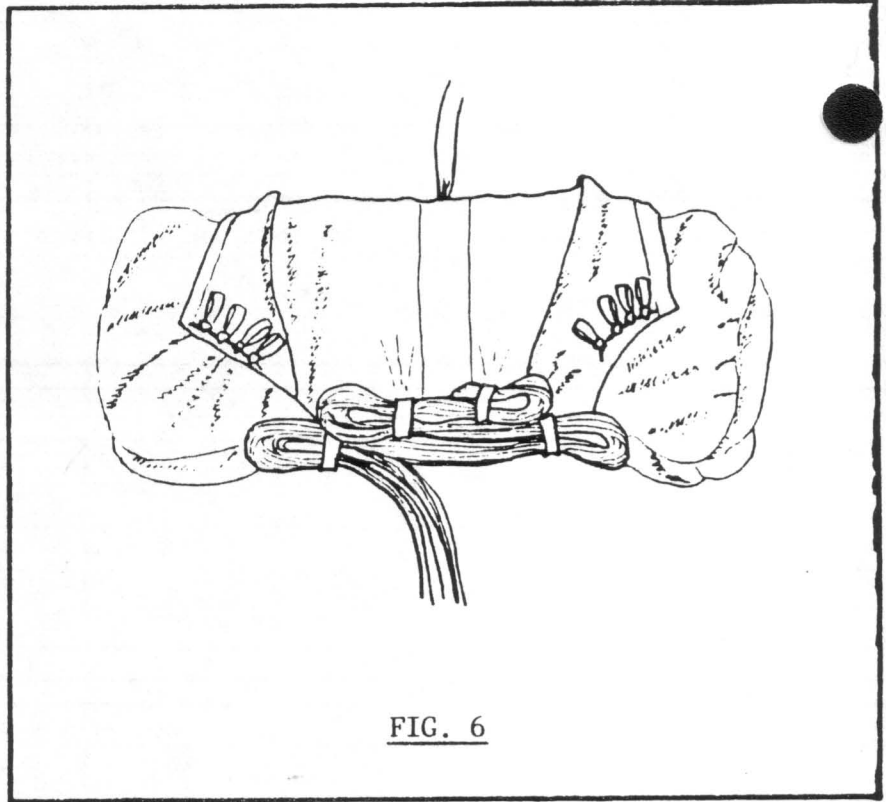
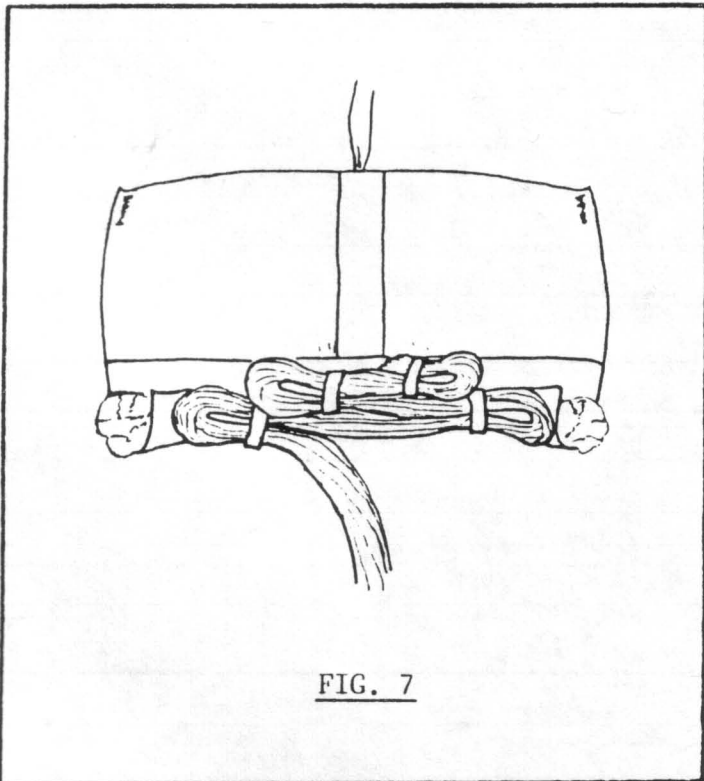

FIG. 6
FIG. 7
- 7) Make the locking stows with the suspension lines to close the mouth of the bag BEFORE closing the velcro split at each end. There are four locking stows; make the stows nearest the center first, then the stows nearer the corners (FIG. 6). After the locking stows have been made, stuff the canopy in at each end of the bag and mate the velcro to complete the closure of the bag. This technique fills the sides and corners of the bag and avoids the lump in the middle. (FIG. 7)